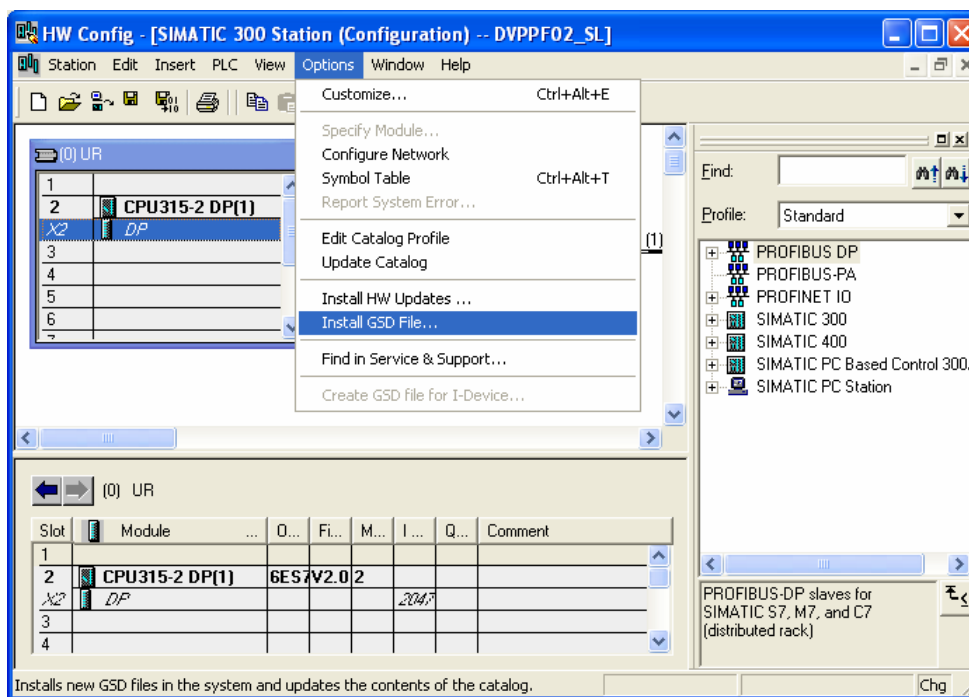

Figure 10-17
1. In the HW Config window, select "Options" => "Install GSD File", as Figure 10-17.